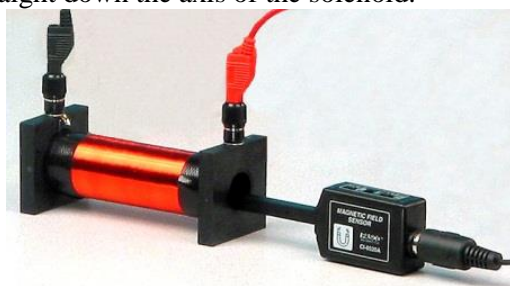

Figure 4: A solenoid with the sensor
For a solenoid (Figure 4) with n turns per unit length, the magnetic field is $B = \mu_o nI$. (4)